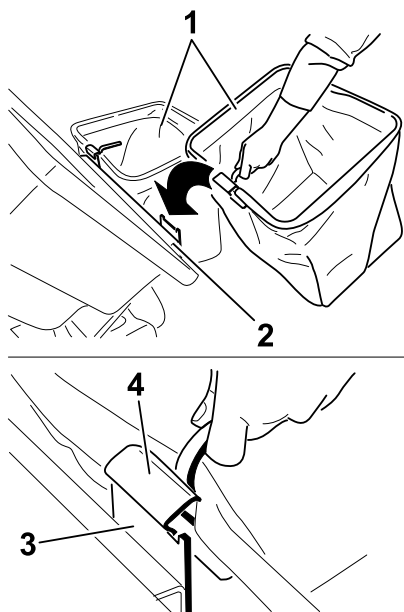

Figure 17
4. Lift the bagger top and install the bags by sliding the bag frame hooks onto the retaining brackets (Figure 17).